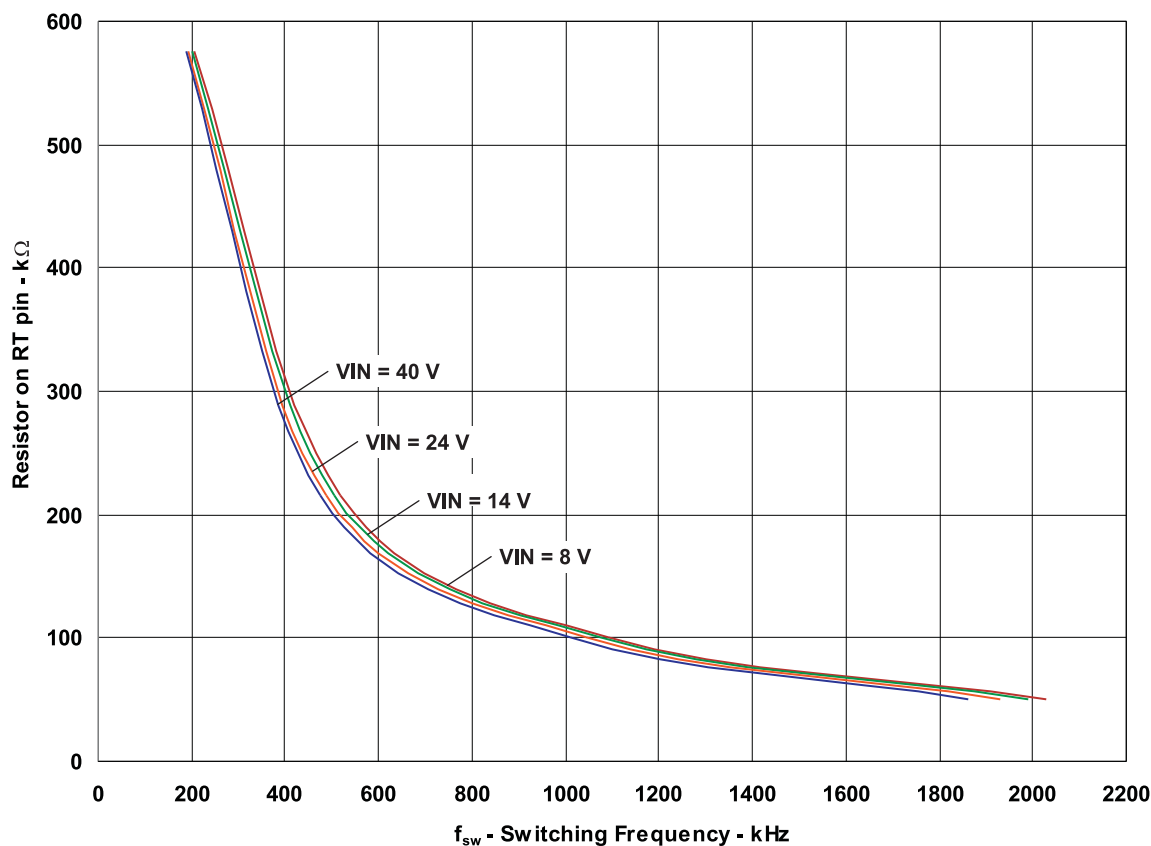

Figure 10. Switching Frequency vs Resistor Value
The oscillator frequency can be set by connecting an external resistor (R8 in Functional Block Diagram) to RT pin (pin 6). Figure 10 shows the relation between the resistor value (RT) and switching frequency (f_{sw}). The switching frequency can be set in the range 200 kHz to 2200 kHz. In addition, the switching frequency can be imposed externally by a clock signal (f_{ext}) at the SYNC pin.
Knowing the switching frequency, the value of resistor to be connected at RT pin can be calculated using the graph shown in Figure 10. Consider the oscillator tolerance ($\pm 10\%$) while selecting the external RT resistor. For example if $f_{sw} = 2.2$ MHz is required, select the RT resistor which corresponds to $f_{sw} = 2$ MHz in Figure 10 to allow $+10\%$ oscillator tolerance.